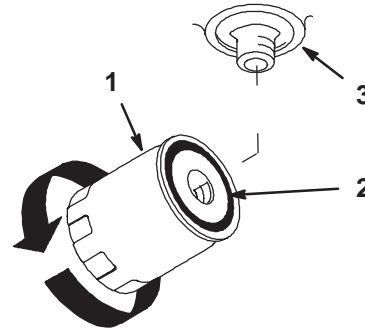

Figure 53
3. Place drain pan under filter, remove the old filter and wipe the filter adapter gasket surface clean (Fig. 53).
4. Apply a thin coat hydro fluid to the rubber gasket on the replacement filter (Fig. 53).
6. Fill the hydraulic tank with hydraulic fluid until the fluid overflows the filter and then turn the oil filter clockwise until the rubber gasket contacts the filter adapter, then tighten the filter an additional 1/2 turn (Fig. 53).